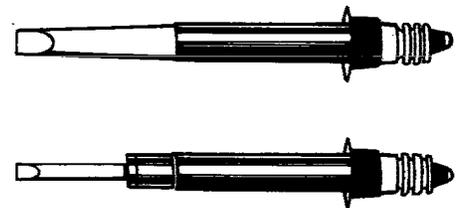

Fig. 2
2.04 Tip and Heating Element: The tip and heating element are supplied as a single unit. Two (2) types of tip are available. The TPW 363 tip is used on distributing frames and for general purposes. The TPW 362-151 tip is used on equipment and other locations where a small tip is required. The TPW 363 tip and heating element will provide three (3) to four (4) month's continuous service in distributing frame operations (see Fig. 2).